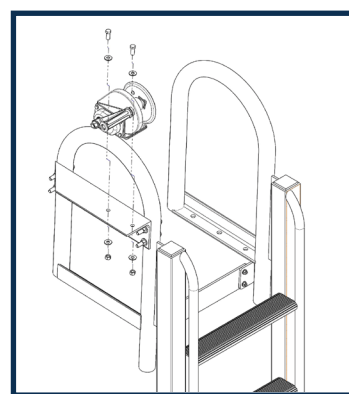

FIGURE 8
- Align winch mounting holes with winch bracket mounting holes and attach with hardware provided in Kit #4 to complete winch assembly. See Figure 8.